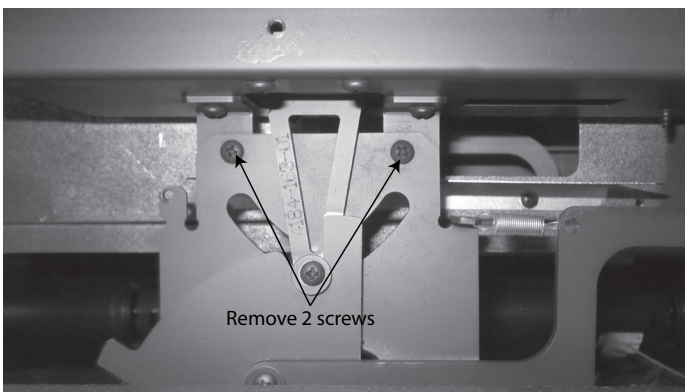

Figure 4.18 Removal of Timer Assembly Screws
5. While holding on to the timer assembly, remove the two (2) screws and slide the linkage arm off of the rod and pull the assembly out of the front. See Figure 4.18.